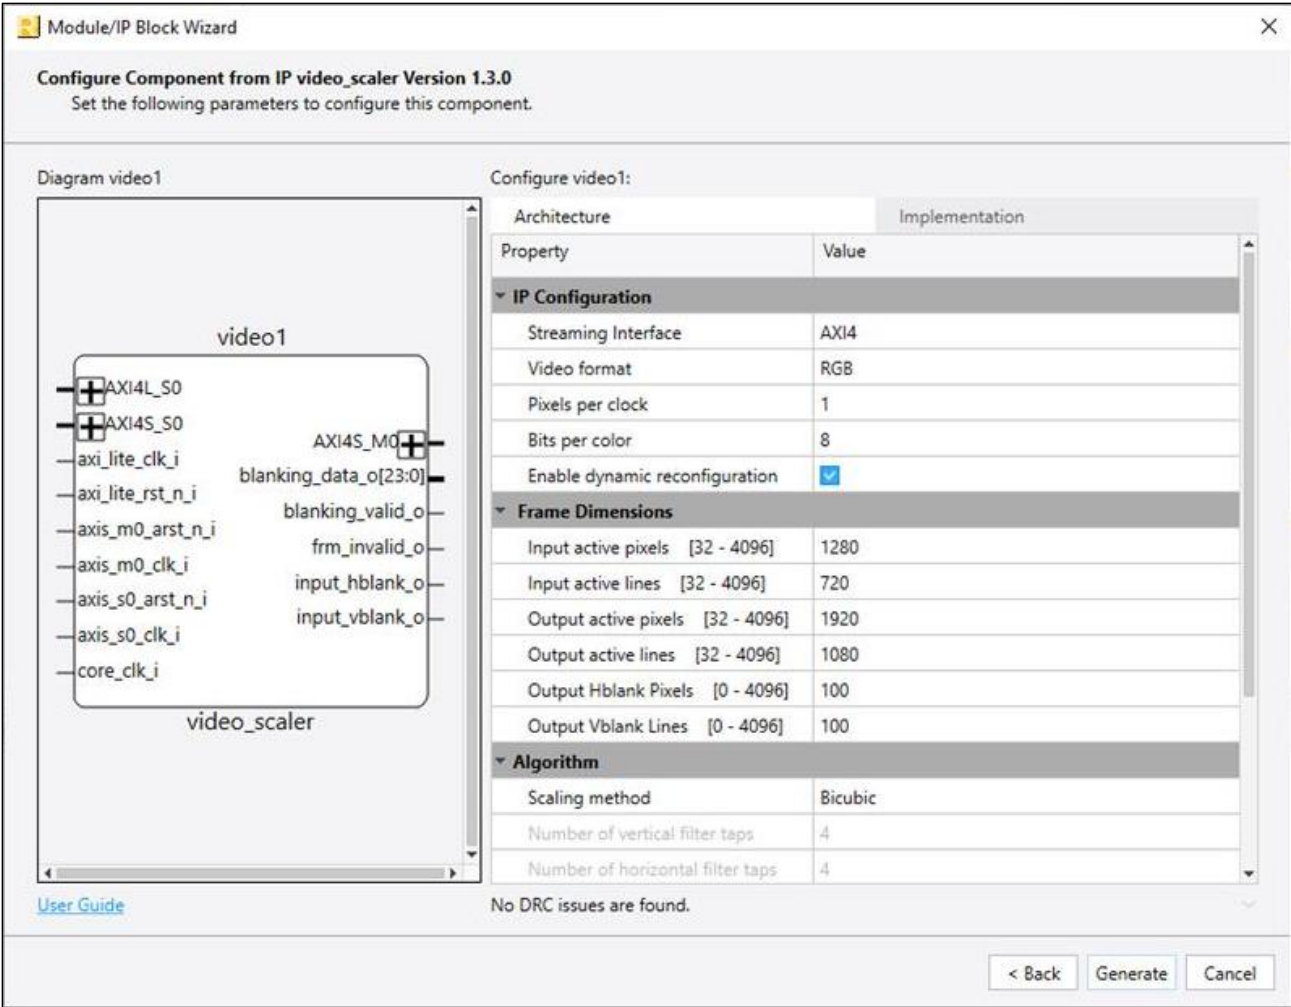

Figure 6.2. Configuration User Interface for Video Scaler IP
5. In the **Module/IP Block Wizard** page, customize the selected Video Scaler IP. As a sample configuration, see Figure 6.2. For configuration options, see Table 4.1 and Table 4.2.